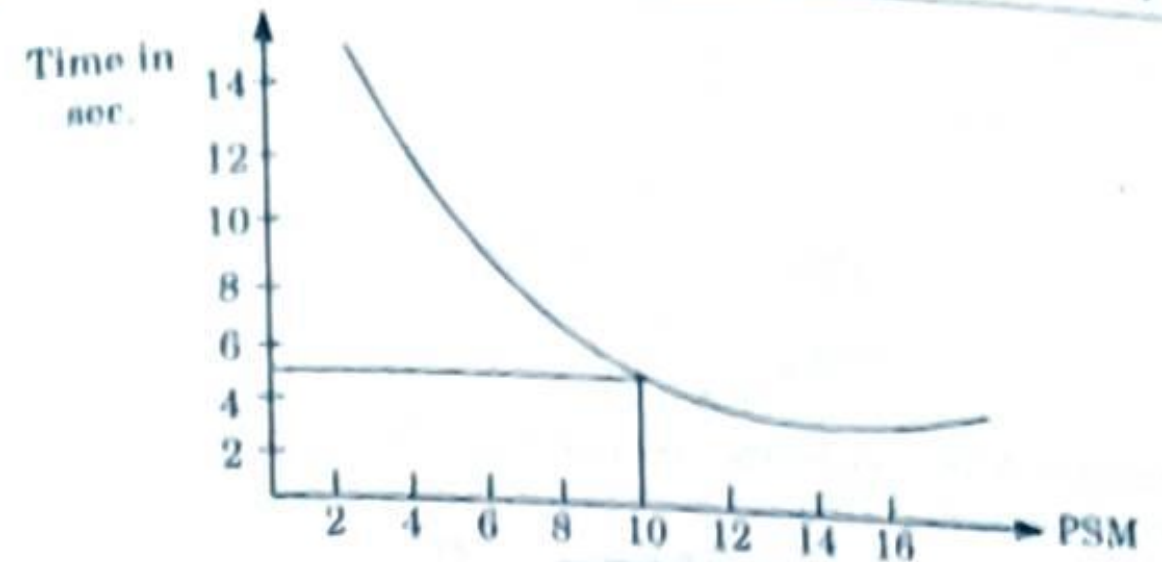

Fig. 3.15.1.
2. But as the current becomes 20 times of its rated value, the time becomes almost constant. By using this curve (Fig. 3.15.1) and time multiplier setting, the actual time of operation of a relay can be obtained.